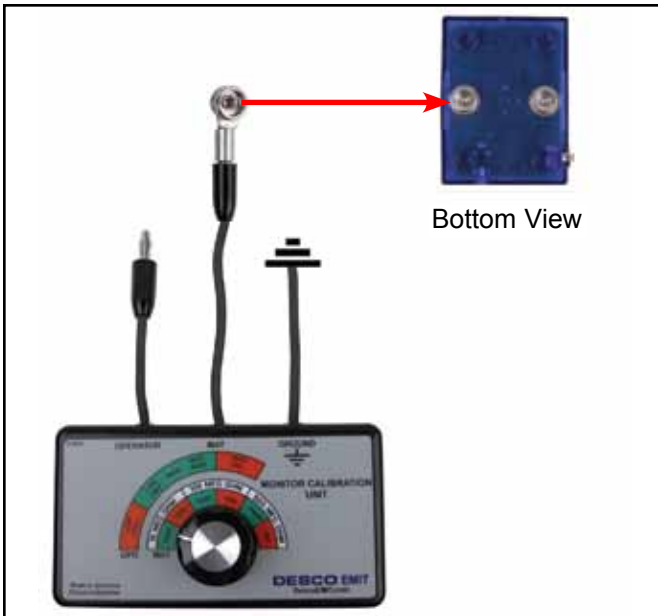

Figure 7. Connecting the MAT test lead from the Monitor Calibration Unit to the Jewel® Workstation Continuous Mini Monitor
Step 2: Connect the included stacking snap to the banana plug labeled "MAT" on the Calibration Unit. Detach the monitor from its mat connection and re-install its snap located underneath the status LEDs to the Calibration Unit's stacking snap (see Figure 7).